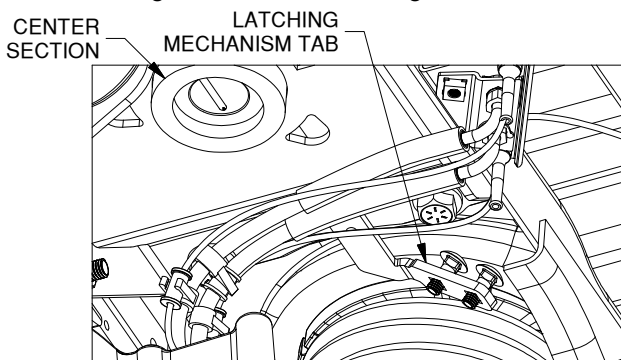

FIGURE D1: Looking up at center section
1. **Install bolts.** Retract the latching mechanism by pulling on the tab with the square holes and pushing it toward the cab. From the top down, insert a 3/8 carriage bolt in each of the square holes in the latching mechanism, see figure D1.